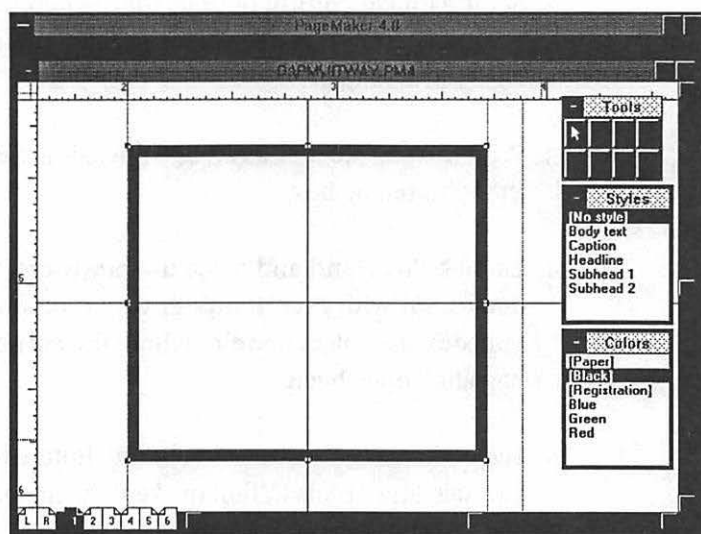

FIGURE 4-35 Use the handles in the sides of a PageMaker box to position ruler guides that bisect the box.
2. Making sure you've turned on SNAP TO GUIDES under the Option menu, draw the line on top of the guide (Figure 4-35).